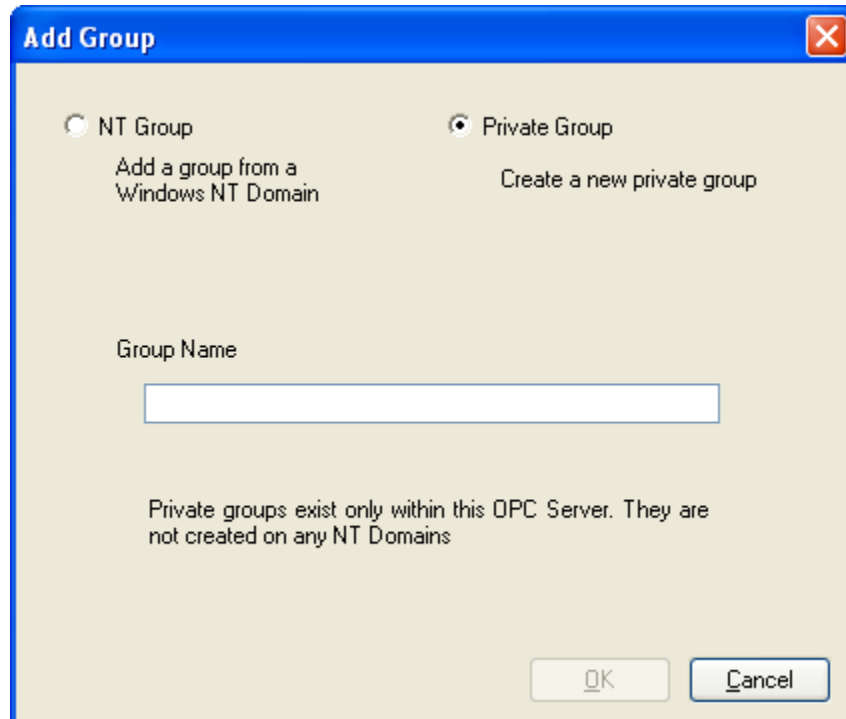

Figure 44 - Add Group Window (Private)
3. Select the **Private Group** option button (Figure 44).